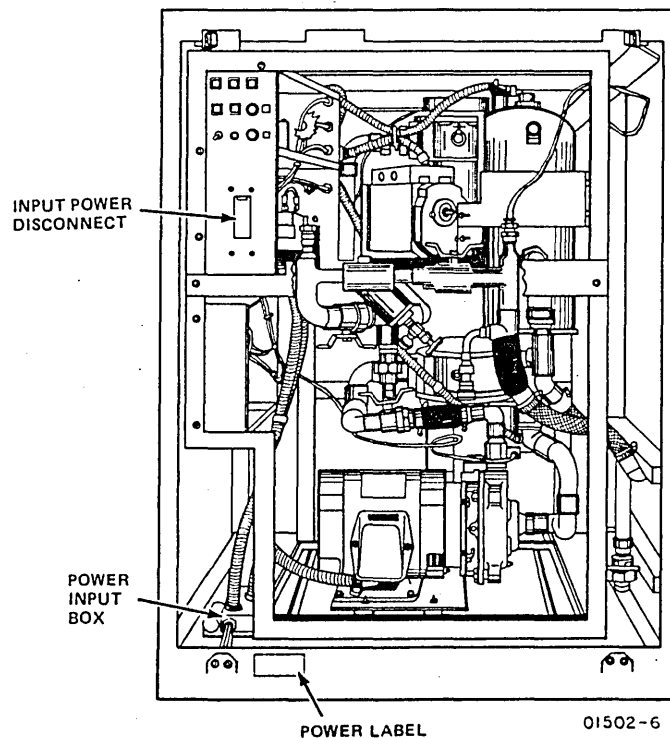

Figure 5-3. 50/60-Hz Power Connections to 102-L/min (27-gal/min) Unit
- ___ 2. Use screwdriver to remove cover from water cooling unit power input box (figure 5-3).